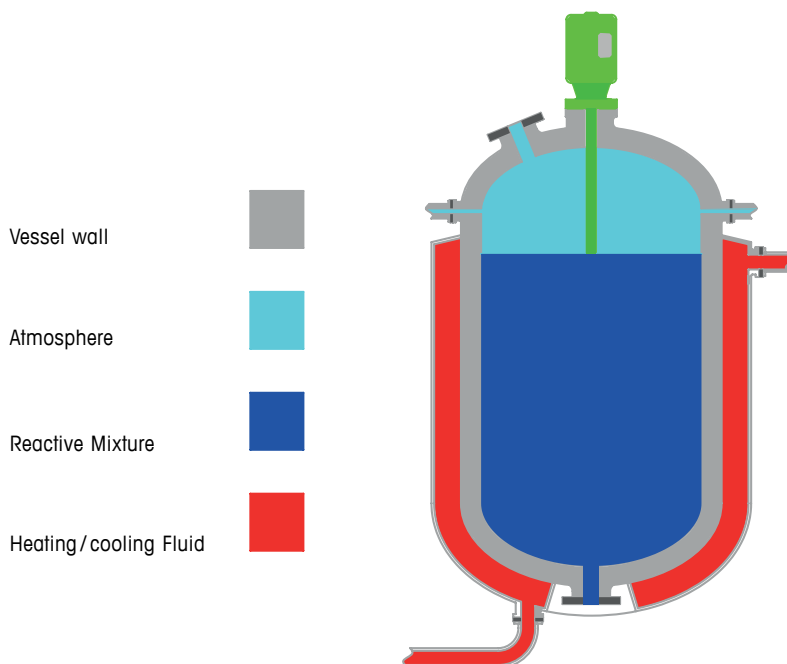

Figure 30: Cross-section through a typical batch reactor
Refer to Figure 30 which is a cross-section through a typical batch reactor. There are a number of factors that contribute to the dead load of a reactor, something that is undesirable from an accuracy perspective. Here is a brief description of those factors.
3. Most reactors will have a heating/cooling coil or jacket (as illustrated in Figure 30). Its weight and sometimes more significantly, the weight of fluid it contains, contributes to dead load. Such a reactor will usually have insulation protected by an outer shell of stainless steel, again contributing to dead load.